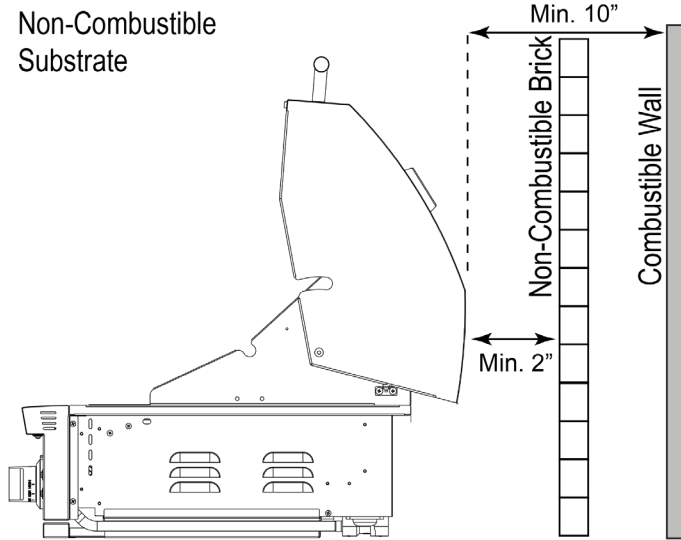

Figure 3
The grill must have a minimum of 10" clearance from the right side, left side and rear (back) of the grill from a protected combustible wall. Refer to Figure 3 (page 7).
**Clearance from the grill and protected combustible wall** (i.e. A non-combustible wall in front of a combustible wall to serve as a barrier. This can be accomplished by brick or a metal stud finished with non-combustible substrate. See Figure 3). The grill must have a minimum of 10" right, left and rear clearance from the protected combustible wall. ( 2" non-combustible material clearance, plus an additional 8" clearance between the grill and protected wall.)